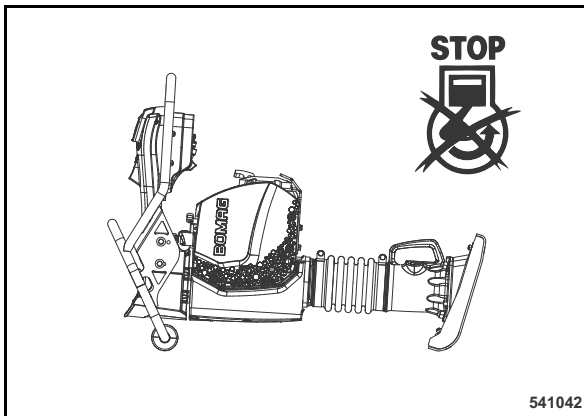

Fig. 73
- Lay the tamper on its side (Fig. 73).